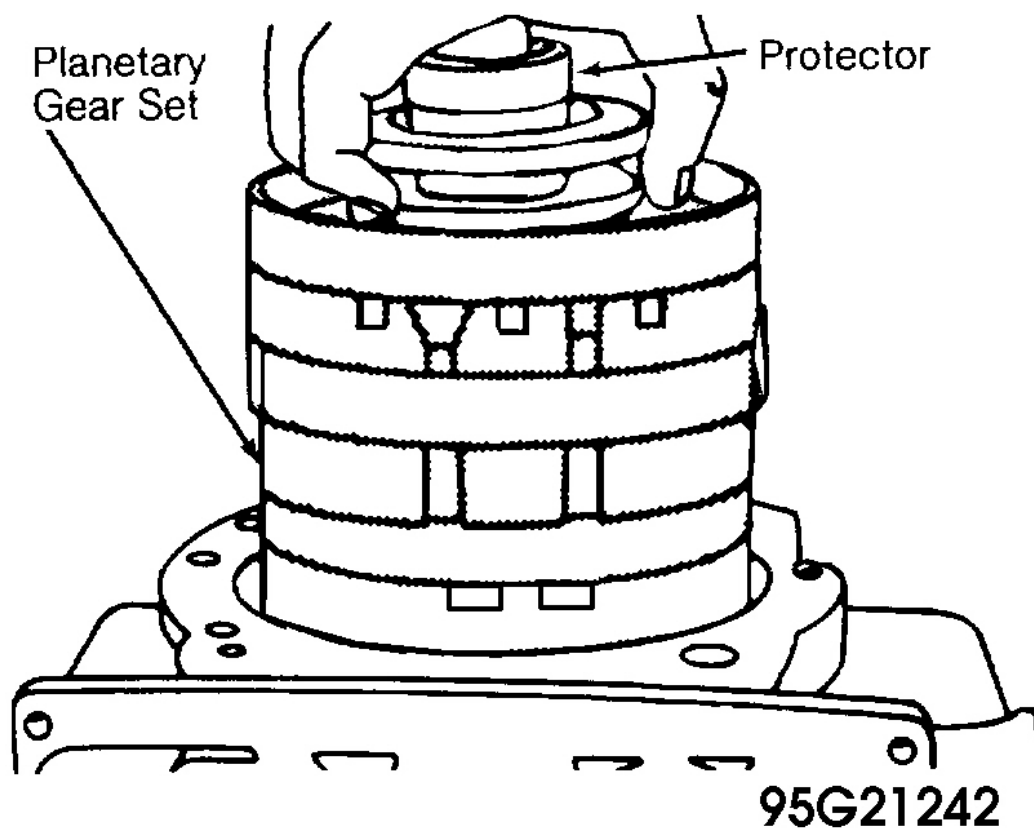

Fig. 7: Removing & Installing Planetary Gear Set
7. Remove large snap ring from inside of transmission case. Place Protector (24 0 040) on intermediate shaft and lift planetary gear set with intermediate shaft from transmission case. See **Fig. 7** .